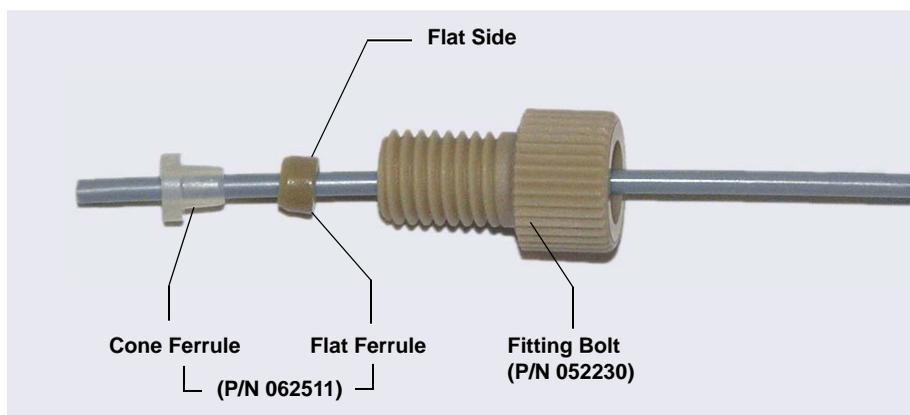

Figure D-4. Fitting for Needle Line
- a. Use the 1/16 in flangeless fitting bolt and two-piece ferrule for the connection. Slide the fitting bolt onto the tubing as shown in Figure D-4.
- c. With the flat side of the small tan ferrule facing toward the fitting bolt, slide the ferrule onto the tubing. Then, slide the clear cone ferrule onto the tubing with the cone toward the flat ferrule and fitting bolt (see Figure D-4).
Figure D-4 illustrates the Dionex AS-AP plumbing schematic for fraction collection in pull mode.